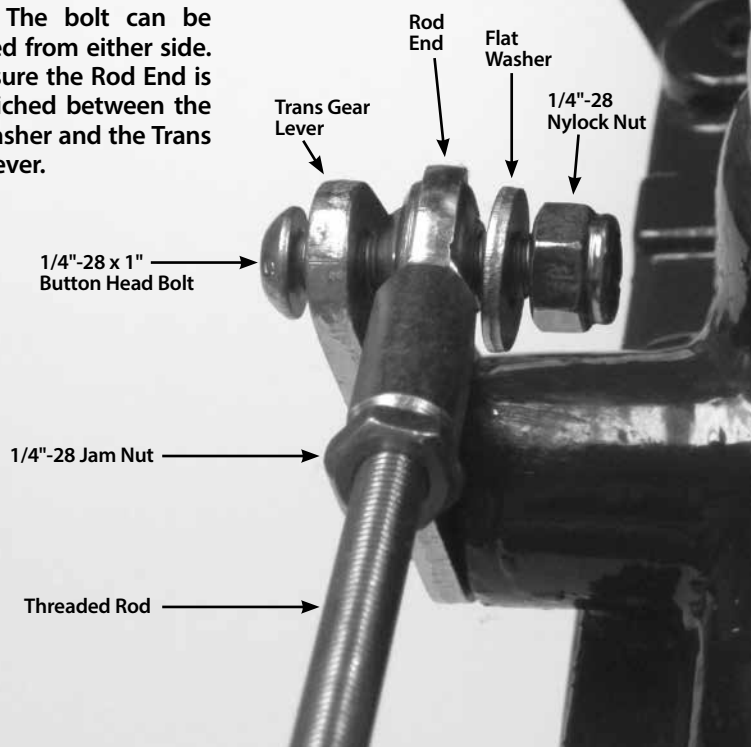
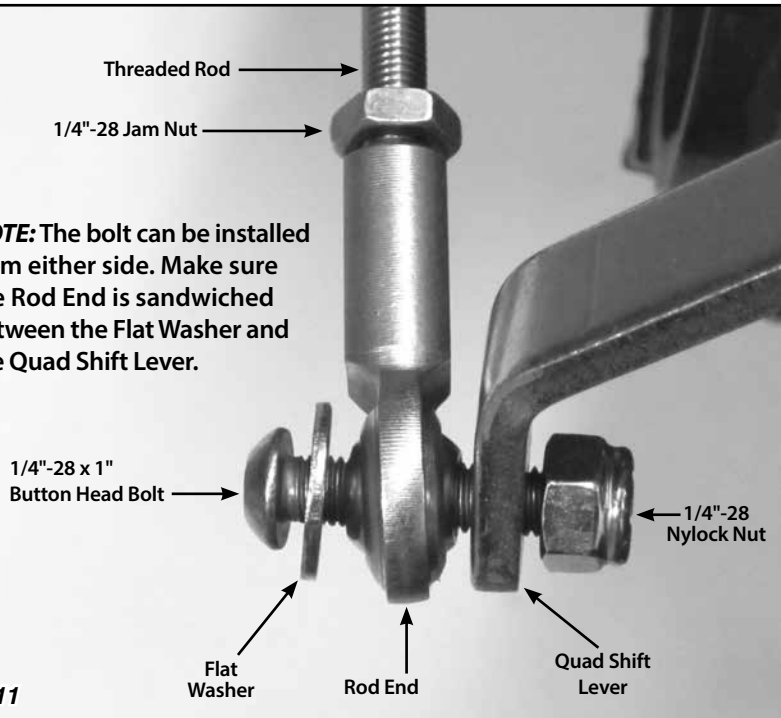

Fig. 10
Fig. 11
**Step 15:** Make sure that two 1/4"-28 jam nuts are installed on the threaded rod, one at each end. Install a rod end onto each end of the threaded rod. Attach the threaded rod assembly to the **inside** of the trans gear lever and to the **outside** of the quad shift lever using the 1/4"-28 x 1" button head bolts, flat washers, and nylock nuts as shown in **Fig. 10** and **Fig. 11**. The button head bolts can be installed from either direction, but make sure the rod end is sandwiched between the flat washer and the quad shift lever or trans gear lever.